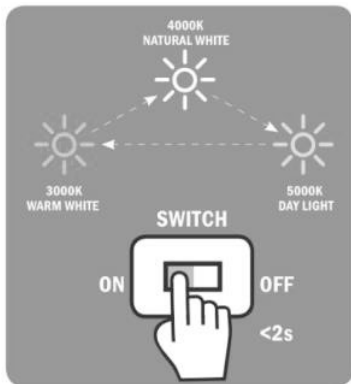

Fig. 4
- To change the colour temperature of the fitting, switch the fitting on, off, and on again within 2 seconds. Repeat this switching cycle until desired colour temperature has been achieved (see Fig. 4)